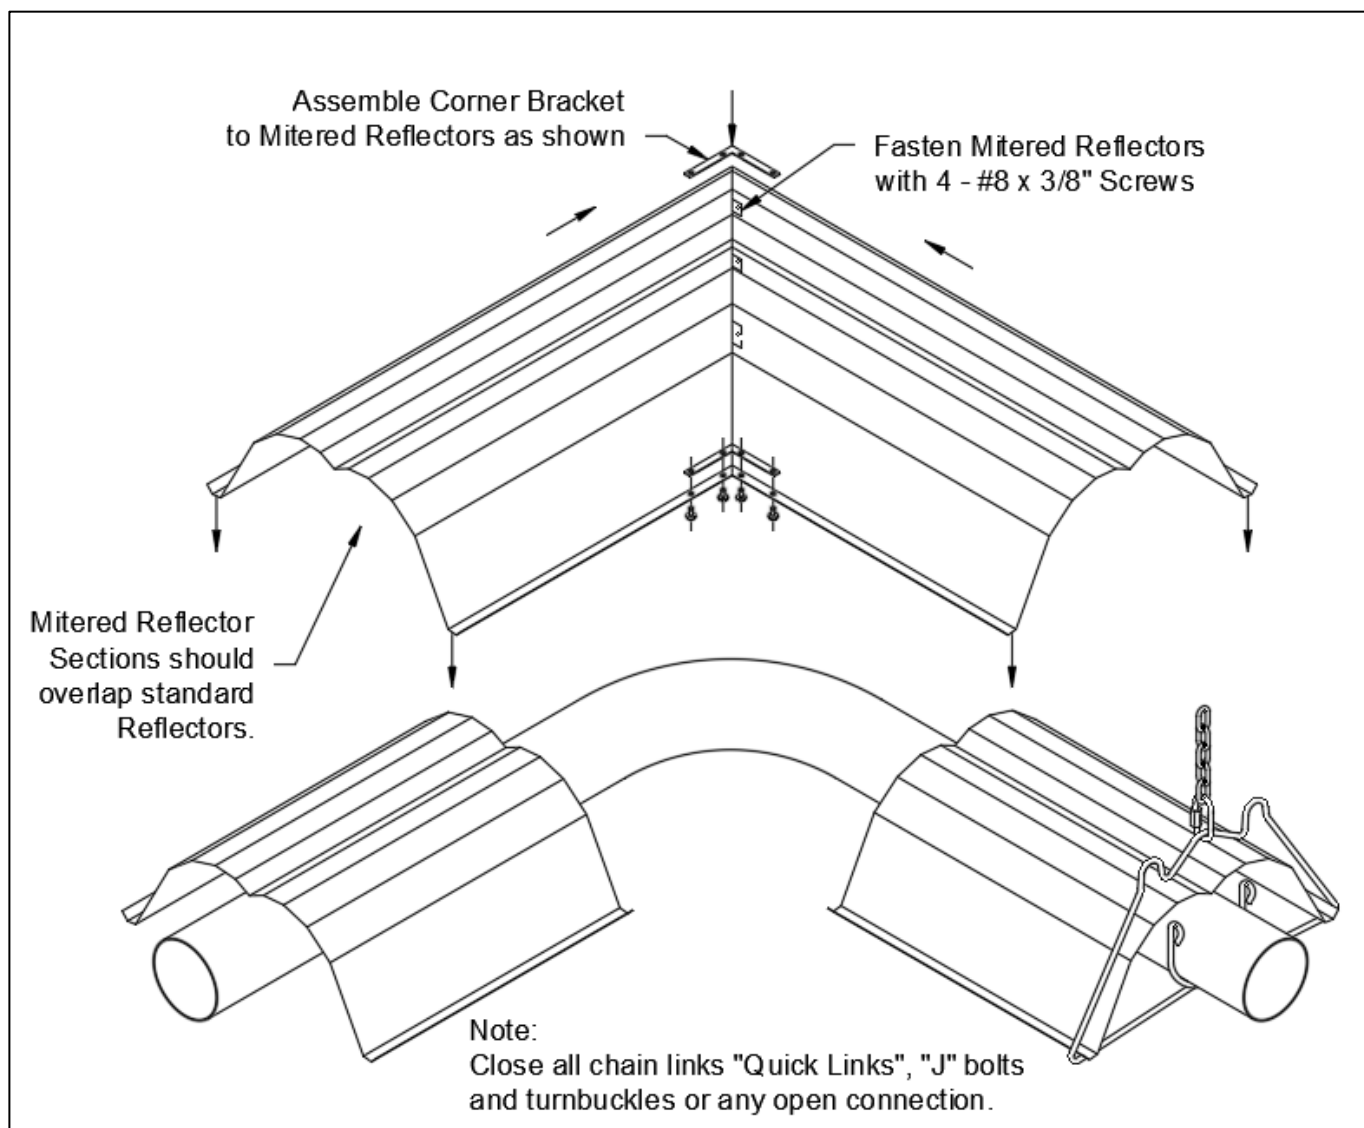

Figure 18: Mitered Reflector Installation
Note: Elbows or U-tubes are typically installed without reflectors. To reduce the above clearance to combustibles distance use miter reflectors (see Figure 18) and refer to Clearance to Combustibles information.
- If used, install the Mitered Reflector as shown below (Figure 18).